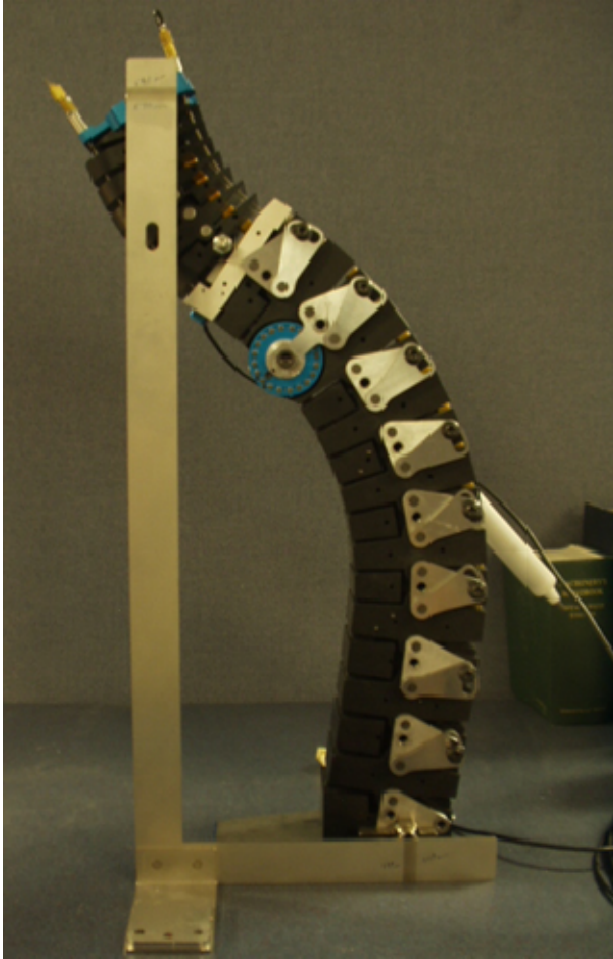

Figure 91 - X and Z Measurement Tool
4. Figure 91 shows the Denton #TRA-063 measurement tool, used for verifying the X and Z dimensions. Record dimensions on data sheet.